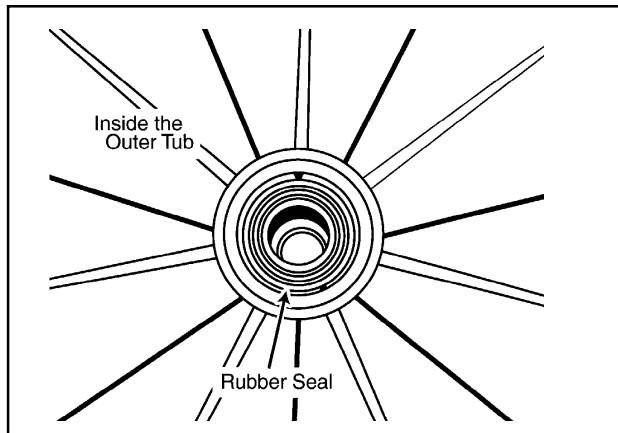

Figure 7-9
- 4 Reach inside the outer tub bearing area and remove the rubber seal. Discard both the steel seal washer and the rubber seal (*Figure 7-9*).